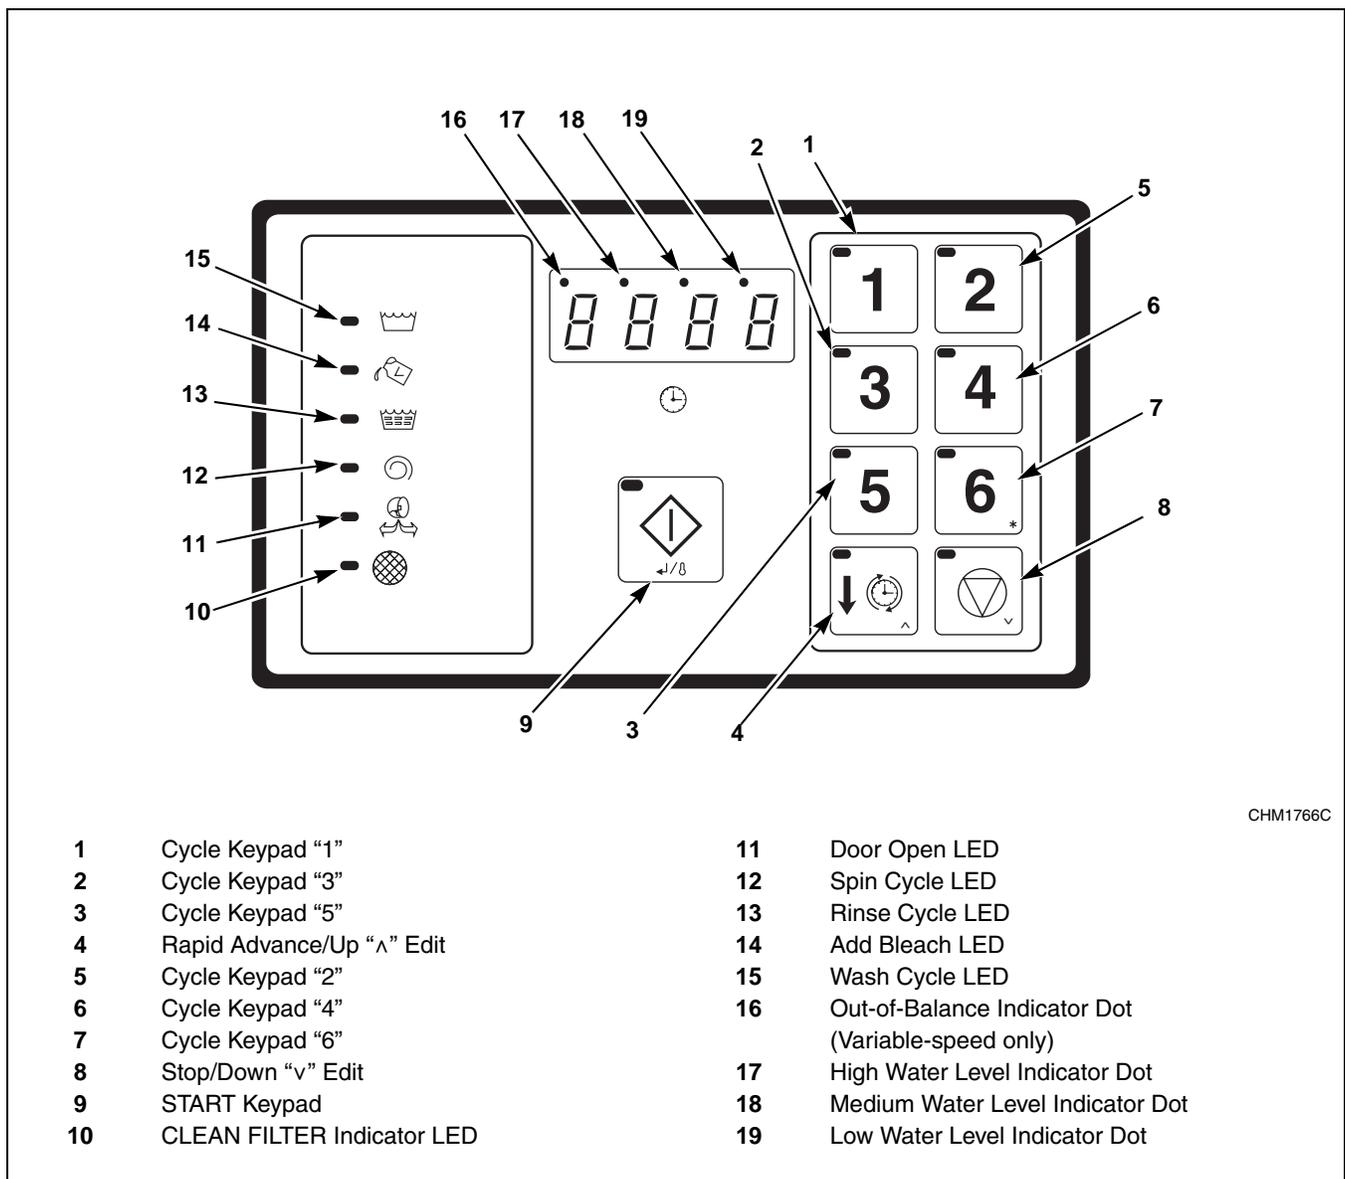

Figure 1
4. Press the START keypad to move into the menu of options. Refer to *Figure 1*.